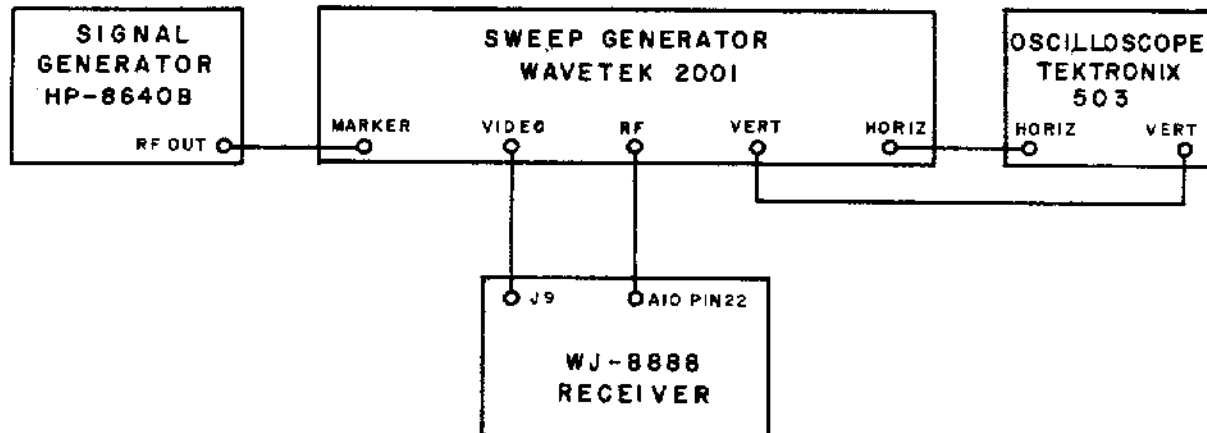

Figure 5-26. Test Setup, FM Discriminator Alignment
- (1) Making sure the ac power is off, remove the AM demodulator board (A9).
- (2) Connect the equipment as shown in Figure 5-26 and reapply the ac power.
- (3) Set the marker signal generator for a 455 kHz (± 0.4 kHz) RF output.
- (4) Set the sweep generator for a 455 kHz -65 dBm RF output and adjust the sweep generator and oscilloscope controls for an undistorted response.
- (5) Disconnect the sweep generator RF output cable to establish the sweep baseline on the oscilloscope (if it is not already visible). Use the oscilloscope vertical position control to place the baseline on the x-axis. Reconnect the cable.
- (6) Adjust L2 so that the marker is on the x-axis.